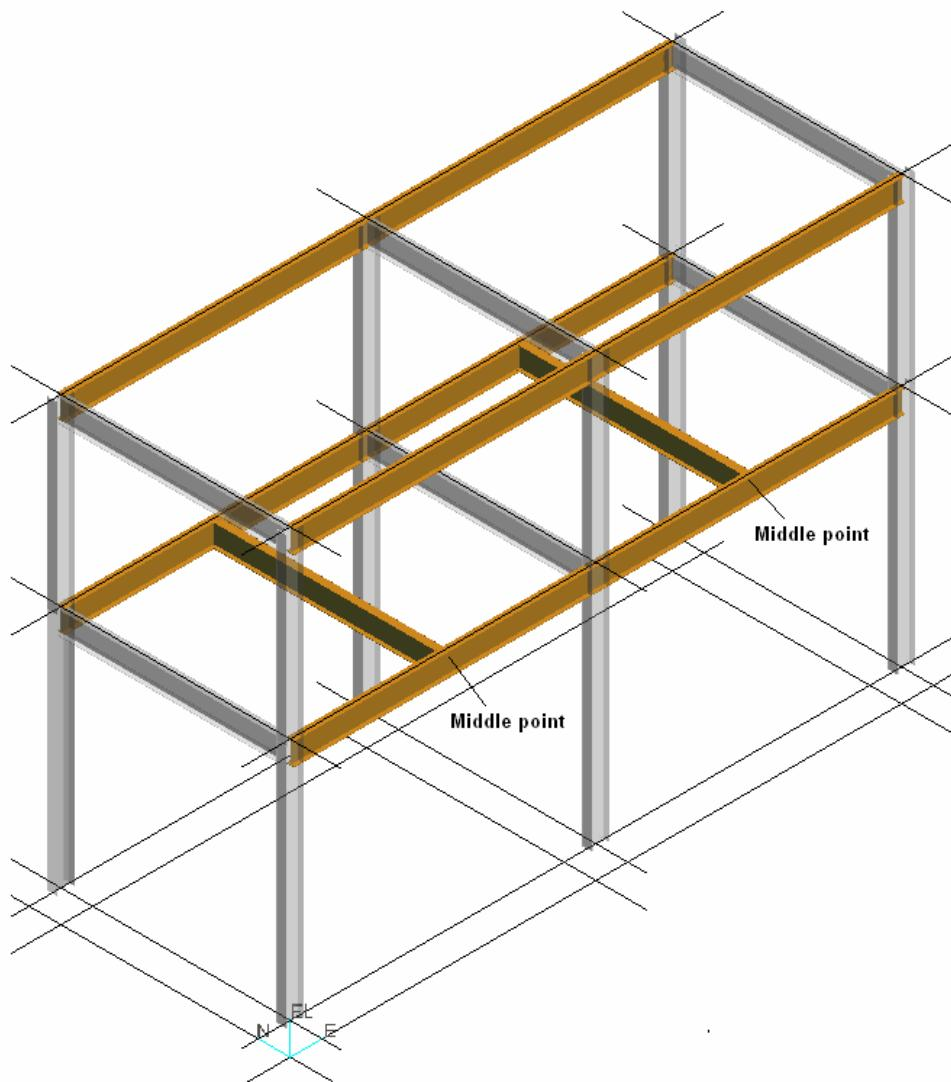

Figure 3 –Isometric View of the Structure Unit 2 System
- 21 Select Place member command to place beams as shown in figure 3. Use following properties for perimeter beams: